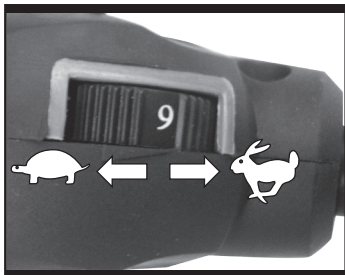

Fig. 6
5. USING THE VARIABLE SPEED DIAL(See Fig. 6)